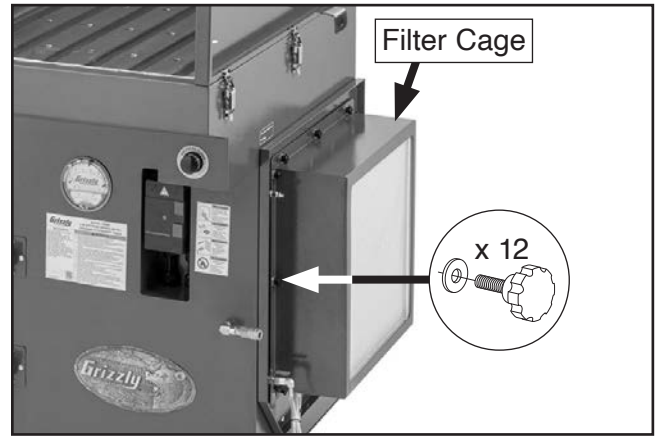

Figure 21. Filter cage attached to machine.
2. Attach filter cage to machine with (12) $\frac{1}{4}$ "-20 x $\frac{3}{4}$ " knob bolts and $\frac{1}{4}$ " fender washers (see **Figure 21**).